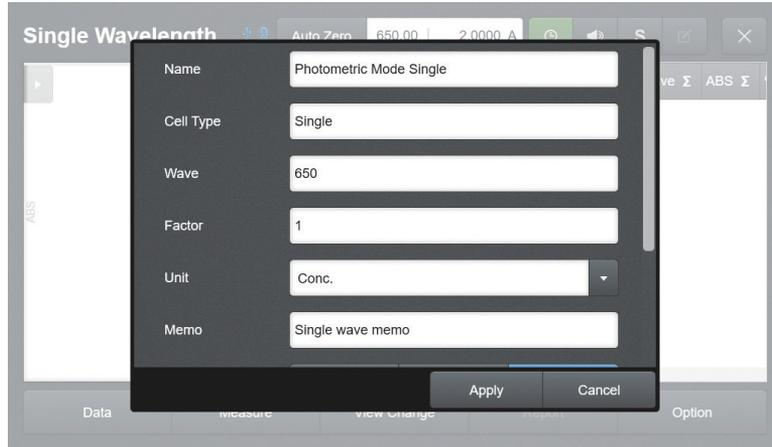

Fig. 2.7
1. [Fig. 2.7] Select the unit item from the list on the settings screen.